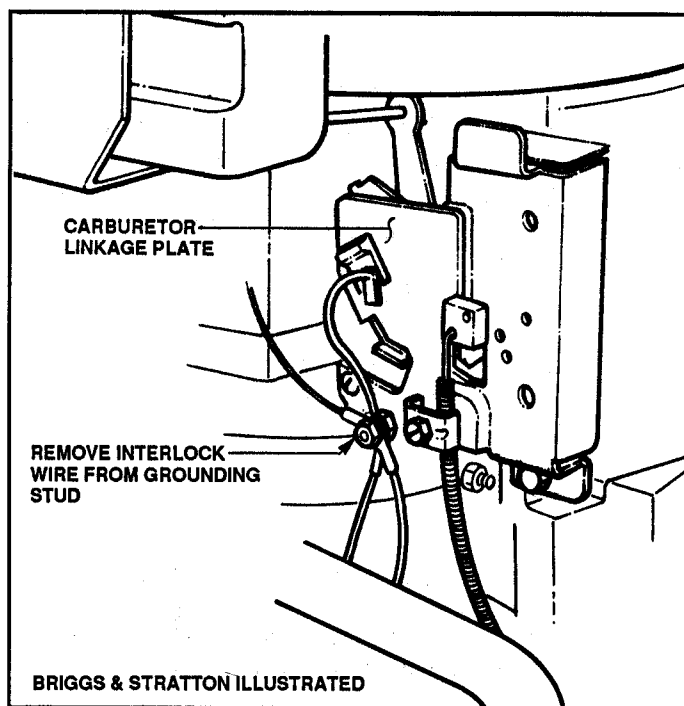

FIGURE 6.4
1. Disconnect the interlock wire at the grounding stud on the carburetor linkage plate. See Figure 6.4.